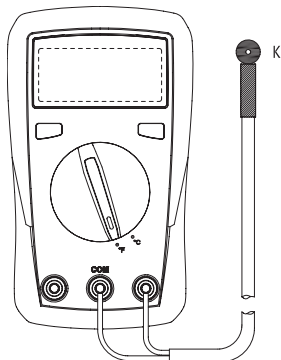

Figure 5
**8. Temperature measurement (only for 72-13435, see Figure 5)**